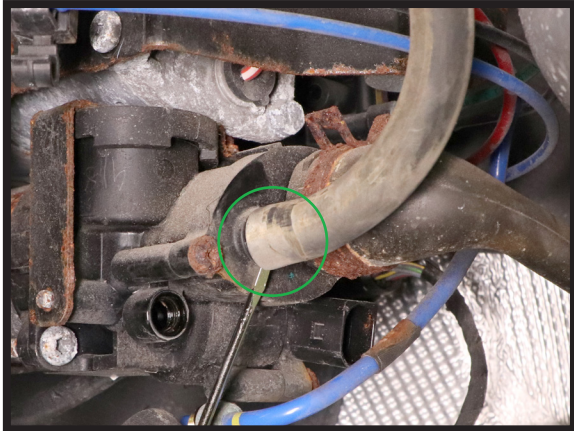

FIGURE 12
7. DISCONNECT THE INTAKE LINE. (FIGURES 12, 13)